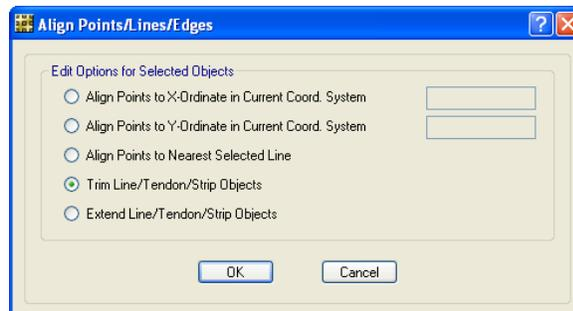

Figure 31 Align Points/Lines/Edges form
- J. Click the **Edit menu > Align Points/Lines/Edges** command to display the Align Points/Lines/Edges form shown in Figure 31.